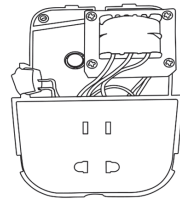

Fig. 2
- 2** Drill 4 holes of 6mm diameter and depth of 35mm on the wall then insert the plastic toggles into the holes according to fig. 2 and fix the bracket on the wall with the 4 screws enclosed
- 2** Pull the reserved wire through the hole show in fig. 2 (there are three holes are available for the direct wiring).